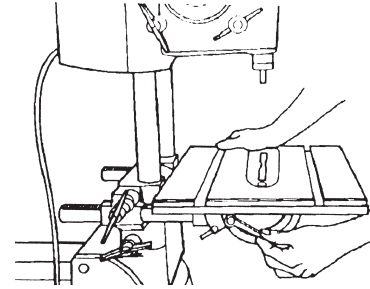

Figure 5
4. Move the Worktable into the 90° position by loosening the Table Tilt Lock, then putting the Worktable in the horizontal 90° position, as shown in Figure 5. Retighten the Table Tilt Lock only enough to allow movement with firm pressure.